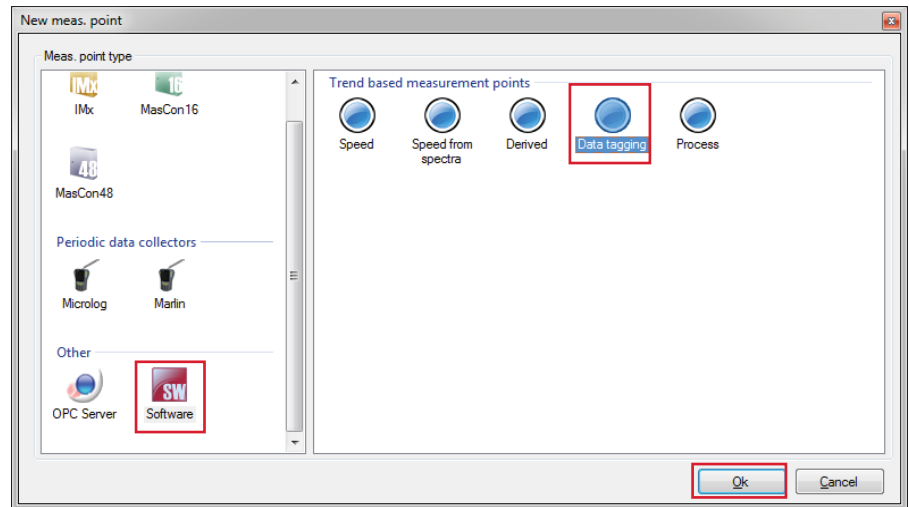

Fig. 8. Select a software / data tagging measurement point type.
- Select a software / data tagging measurement point type and click **OK** (→ **fig. 8**).